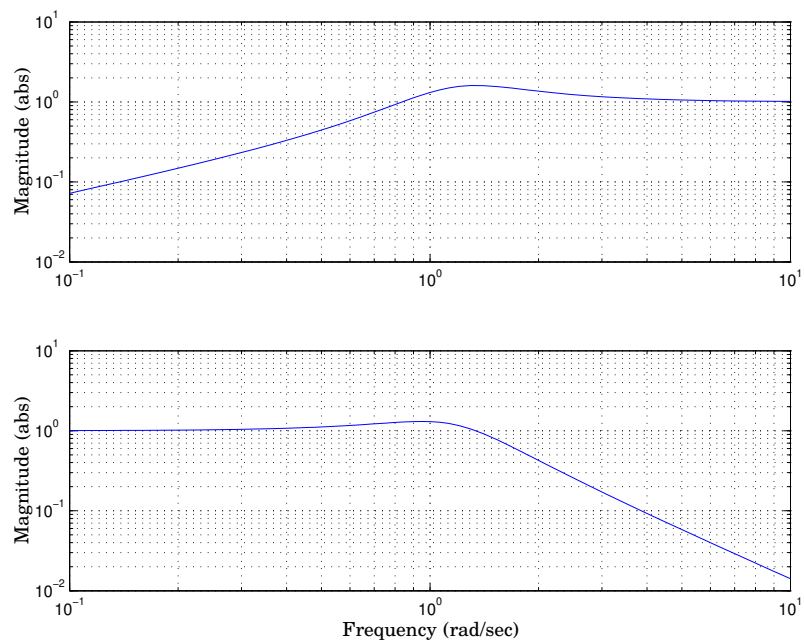

Figure 2.7 The two magnitude curves in Problem 2.5.
- Figure 2.7 shows gain curves for the sensitivity function and the complementary sensitivity function. Which curve represents which function?